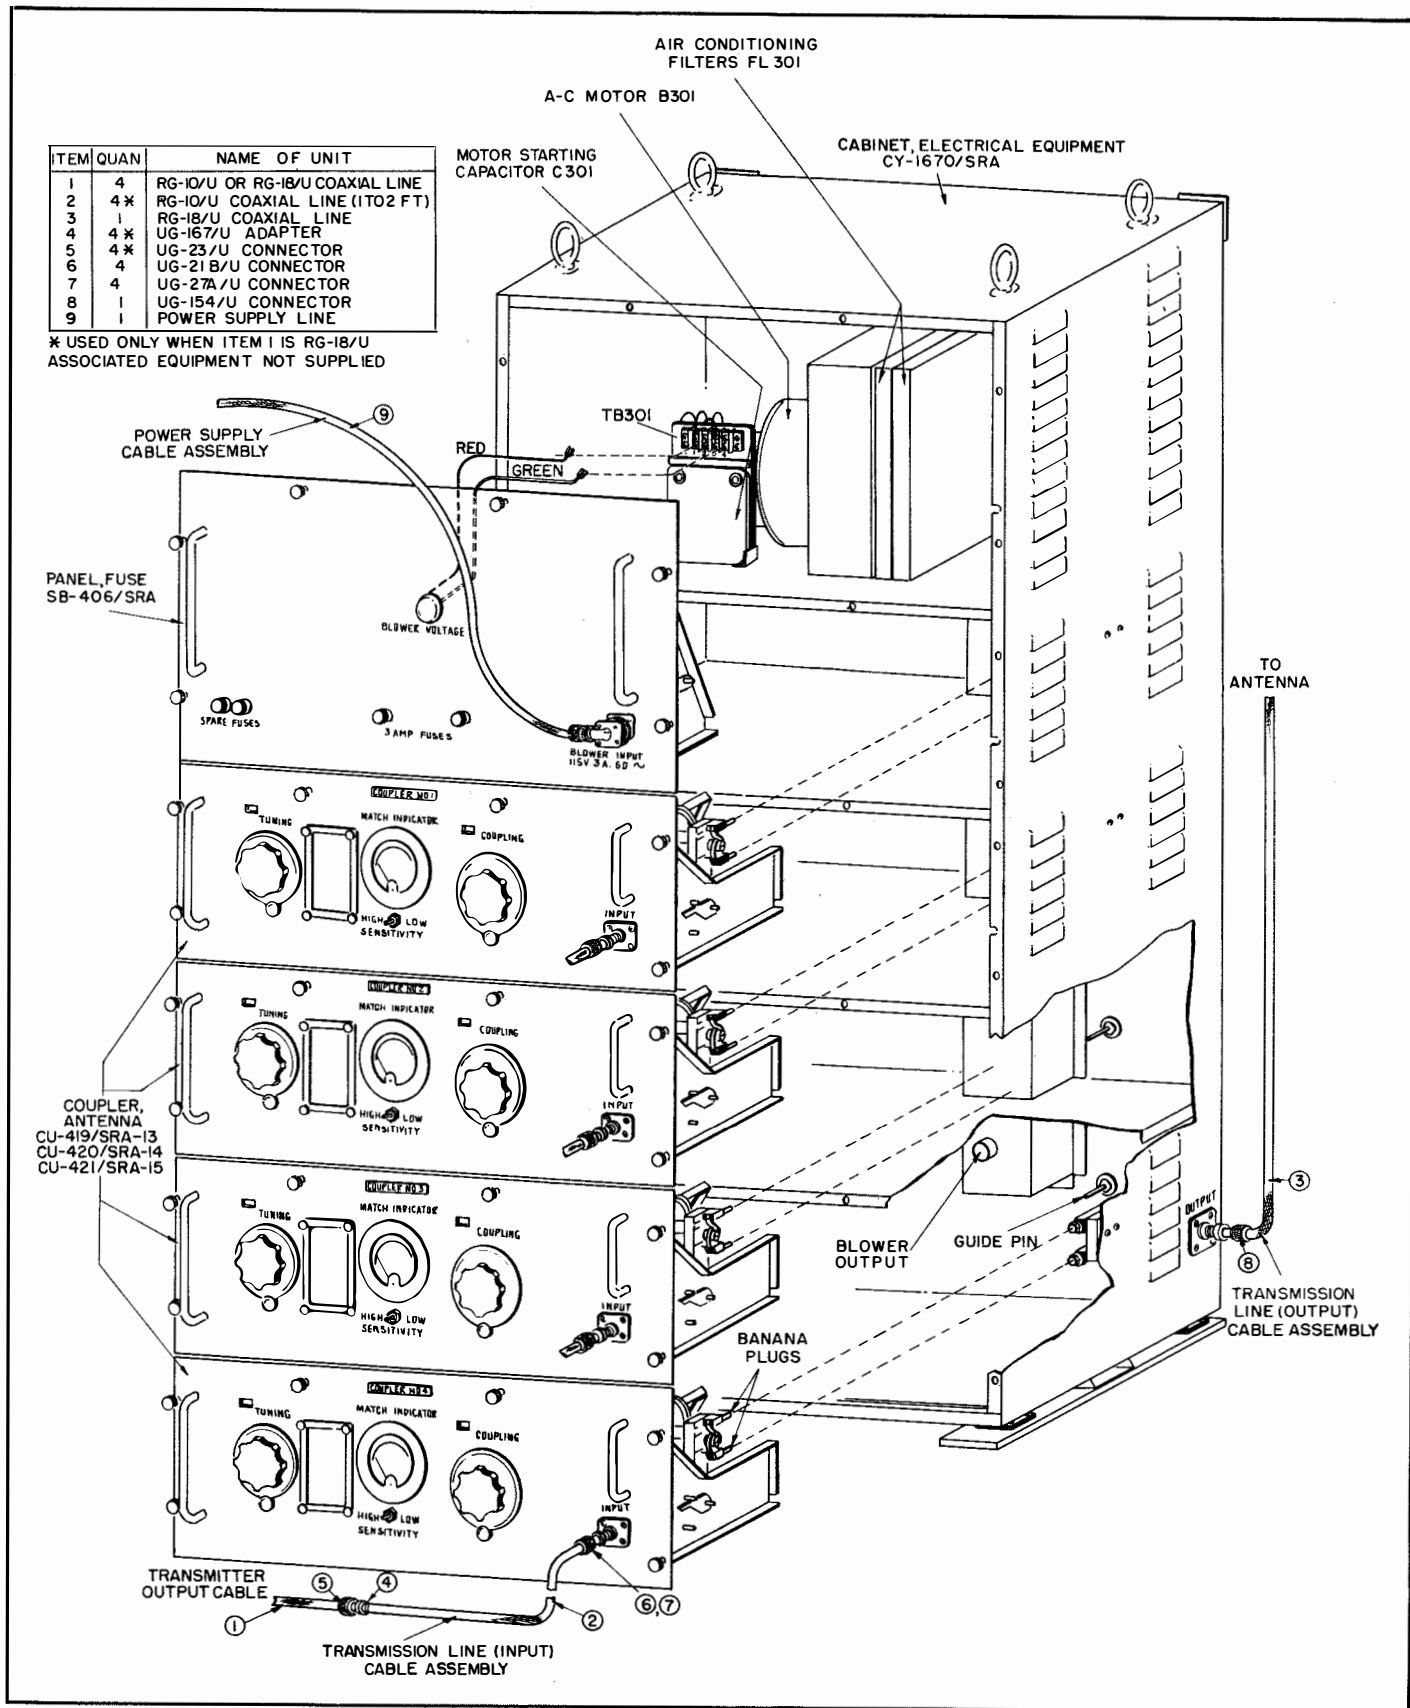

Figure 3-2. Installation Details
(2) PANEL, FUSE SB-406/SRA.—Release the four knurled panel screws in the fuse panel and withdraw the panel to the stop. Note if the two leads to the blower voltage indicator lamp are connected to the terminal board near the blower motor. If not, connect the two spade terminated leads from the lamp to terminals 1 and 4 of the terminal board, TB301 (see figure 3-2).
a. GENERAL.—Figure 3-2 illustrates the cable assemblies connected to a coupler group. There are no critical lengths of coaxial transmission line; however, it is always good practice to keep these lines as short as possible.
c. TRANSMISSION LINE (INPUT) CABLE ASSEMBLY.—When the transmitter output cable (item 1 of figure 3-2) is type RG-10/U coaxial line, connect its terminating plug to angle adapter UG-27A/U. Connect the angle adapter to the INPUT receptacle of the antenna coupler.